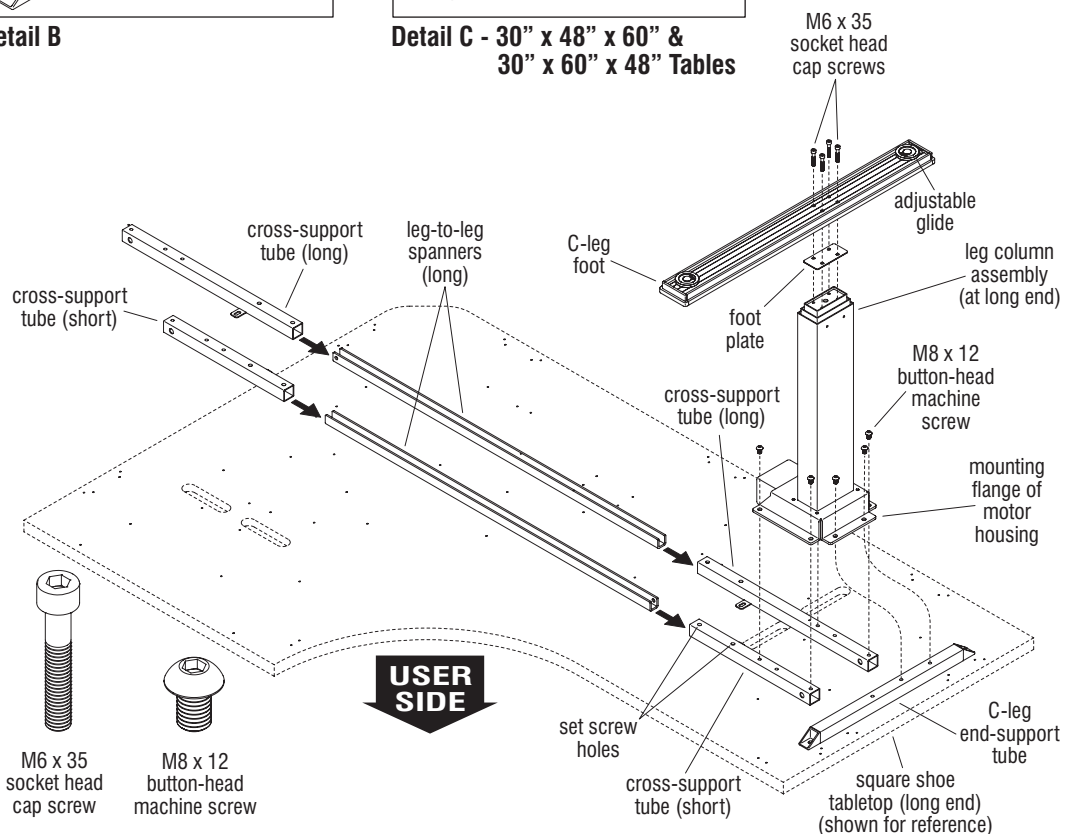

Figure 2
Note: Two different lengths of cross-support tubes and leg-to-leg spanners are supplied. The short end of the table uses four short cross-support tubes and two short leg-to-leg spanners (Figure 2).
Note: There are two different lengths of cross-support tubes and leg-to-leg spanners. The long end of the table uses two short and two long cross-support tubes and two long leg-to-leg spanners. The two longer support tubes must be installed to the back, longer, non-user side of the table (Figure 2).
the open ends of the cross-support tubes installed under the leg column base. Next slide a cross-support tube (matching the same length as at the opposite end of the leg-to-leg spanner) onto each end of the leg-to-leg spanners (with mounting tabs face down and facing inward). Do not secure the support tubes to the spanners with set screws at this time (Figure 2).
1. Start assembling the C-leg to be placed on the long end of the table by positioning one shorter and one longer cross-support tube (with mounting tabs facing down and facing inwards), and one C-leg end support tube in position as illustrated in Figure 2. The longer cross-support tube must be positioned to the back, longer, non-user side of the table. Place a leg column assembly over the three support tubes and align six mounting holes of the leg column mounting base with appropriate mounting holes of the three tubes as illustrated. The C-leg end support tube contains three mounting holes but only the two non-user side holes are used. Make sure the tube has the longer end with one unused mounting hole facing the user side as illustrated in Detail B. Using six M8 x 12 button head machine screws torqued to 9.5 ft/lb, secure the flange of the leg column to the three support tubes (Figure 2).
2. Assemble the C-leg foot to the leg column by first positioning a plastic foot plate over the mounting location on the leg column. The foot plate must be oriented so the raised flange faces into the column, to nest the foot plate into place. Next, position a foot over the foot plate and leg column as illustrated, with the mounting holes of the foot aligning with those of the leg column. It is important that the longer end of the C-leg foot face the user side. Once the foot is correctly oriented, secure the foot to the leg column with four M6 x 35 socket head cap screws. Torque to 7.5 ft/lb (Figure 2).